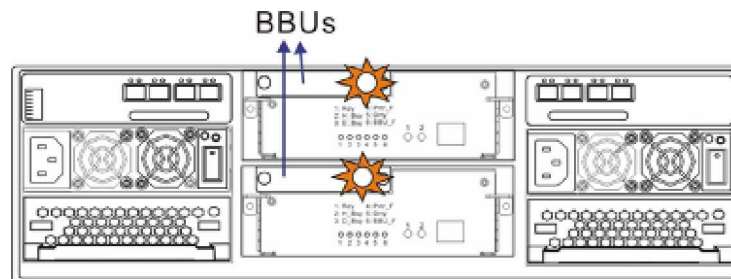

Figure 5-12: BBU LEDs
**Step 4. Reset the subsystem** for the new BBU to take effect. The LED should start flashing to indicate that BBU is being charged. When the BBU is fully charged, the LED will light amber constantly. (See *Figure 5-12*)